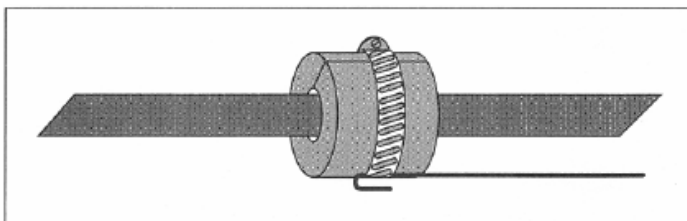

Figure 2
2. The wire hanger has a 180° hairpin bend at one end and a loop bend at the other end. Center the hairpin end of the wire hanger along the grommet. Slide the clamp over the wire hanger and into the bend of the hanger. See Figure 2.